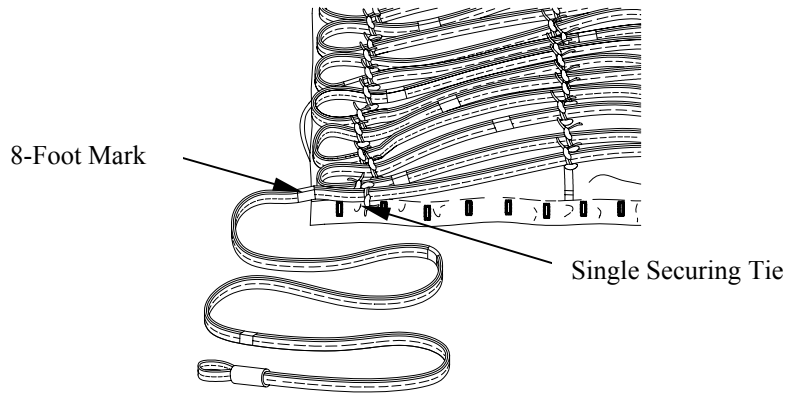

Figure 8. Final Extraction Line Tie.
- g. Make sure that the running end of extraction line extends from the bottom left corner of the panel. Make a single securing tie with type I, 1/4-inch cotton webbing leaving eight (8) feet of extraction line remaining. Trim and remove any unused ties (figure 8).